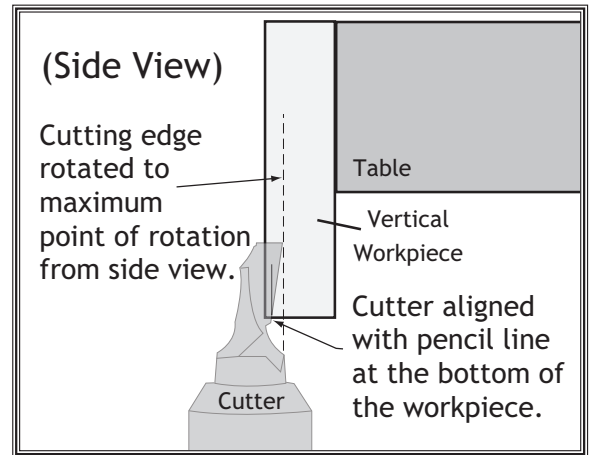

Figure 37. Cutter position for setting tail thickness (as viewed from the side).
7. Unlock the tracer pin, and adjust the thumbwheel as necessary until the cutter is positioned as shown in **Figure 37**.